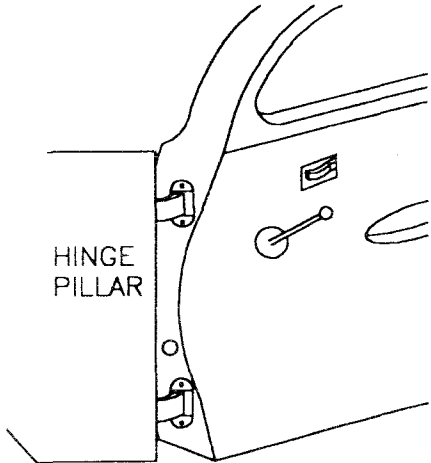

Fig 10
12. To install the flexible wire conduit in the passenger's side of vehicle, open both right and left doors all the way. Visually look across front edge of door pillar from drivers side. Notice widest point visible on opposite door. This will be the location for the FWC installation. This is usually just above the lower door hinge. Mark a position where the entire grommet or bushing can be placed in this area as close to the inside edge of the door and hinge pillar as possible, without interfering with the door or hinge pillar reinforcements. See (Fig 10). Use the same procedure for the driver's side installation. The FWC must slide into either the door or the hinge pillar. There must be sufficient room to allow free movement so the wiring can be safely routed inside the door and hinge pillar. Decide now